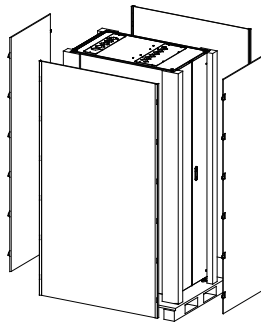

Fig. 2-2
- 2.Disassemble the Side panels: adjust the plug tongue by Pliers and remove the Side panels(Fig.2-2);